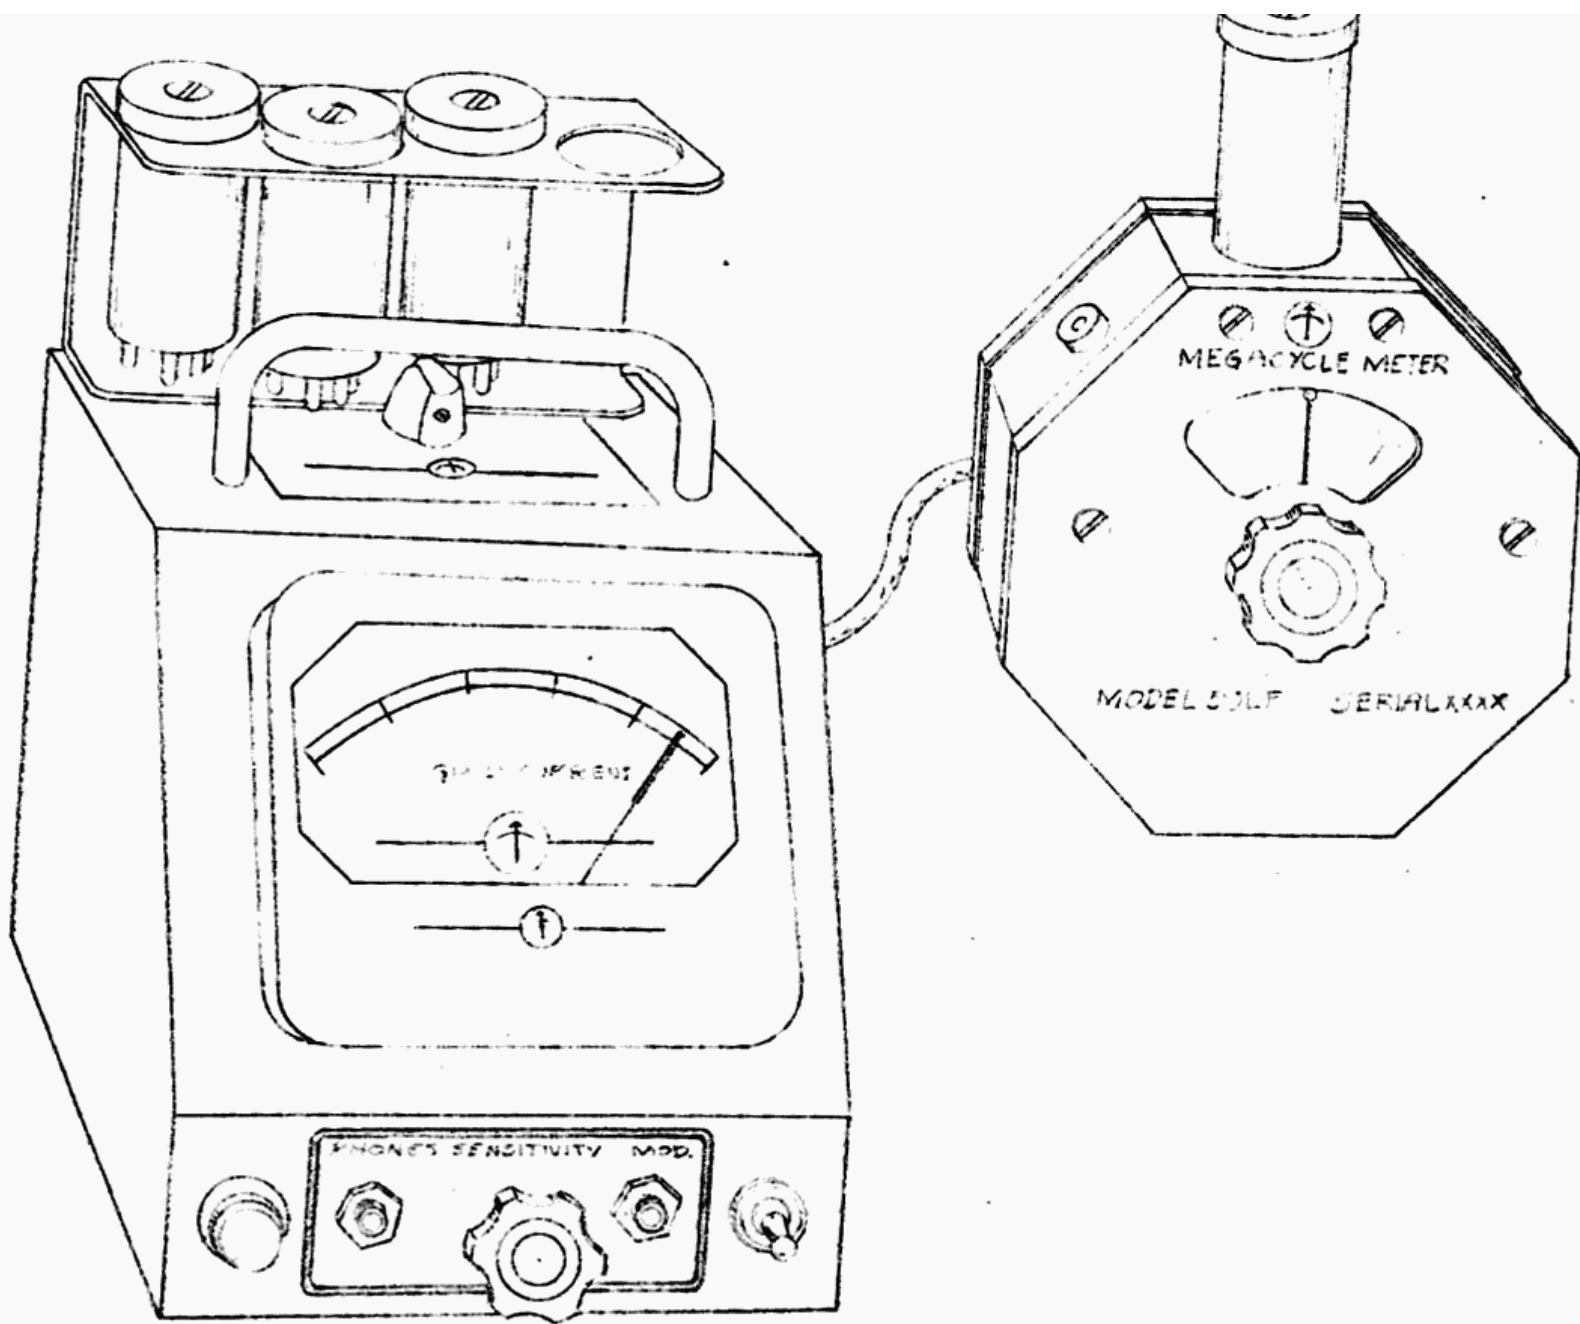

Figure 1. Model 59 LF Megacycle Meter
a. The Model 59 LF Megacycle Meter, see Figure 1, consists of a compact oscillator connected to its power supply by a small flexible cord. It covers a frequency range of 100 kilocycles to 4.5 megacycles and may be used as follows:
- (1) As a grid-dip meter.
- (2) As a variable-frequency oscillator, either modulated, or unmodulated.
- (3) As an absorption wavemeter.
- (4) As an oscillating detector, or as a tuned diode detector.
b. Remove the coil set from its storage space in the rear of the power supply and clip it in place at the top rear edge of the power supply unit as shown in Figure 1. Select the coil having the desired frequency range and plug it into the oscillator unit.